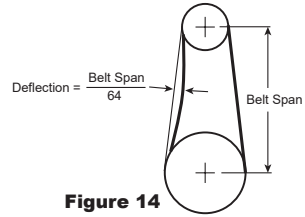

Figure 14
- 8b. Belt tension should be adjusted to allow 1/64 in. (0.397 mm) of deflection per inch of belt span. For example, a 15 in. (381 mm) belt span should have 15/64 in. (5.95 mm) (or about 1/4 in. (6 mm)) of deflection with moderate thumb pressure at mid-point between pulleys, see Figure 14.
Models 56JP02, 56JN99, 56JP01, 56JP05, 56JP07, 56JP10, 56JP12, 56MW69, 56JP11, 56MW70, 56JN93, 56JN94, 56JN95, 56MW71, 4YY22, 5DV07, 5DV08, 56JP04, 56JN96: Belt tension should be adjusted to allow 1/64 inch of deflection per inch of belt span when moderate thumb pressure is applied. See Figure 14.
3. Start the fan and shut it off immediately to check rotation of the wheel with directional arrow in the motor compartment, reference Figure 14.